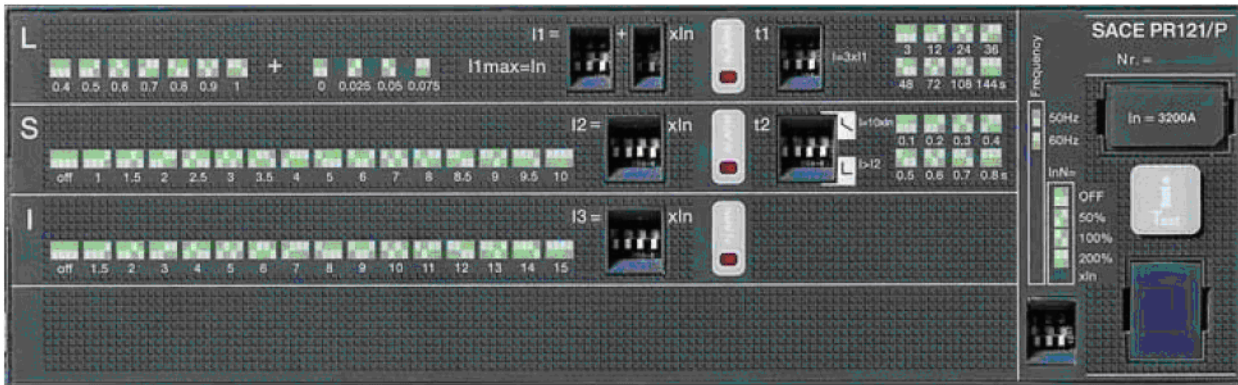

Figure 1-1: PR121/P Breaker Dip Switches.
2. Set the breaker electronic trip unit dip switches as follows (see Figure 1-1 on page 2):